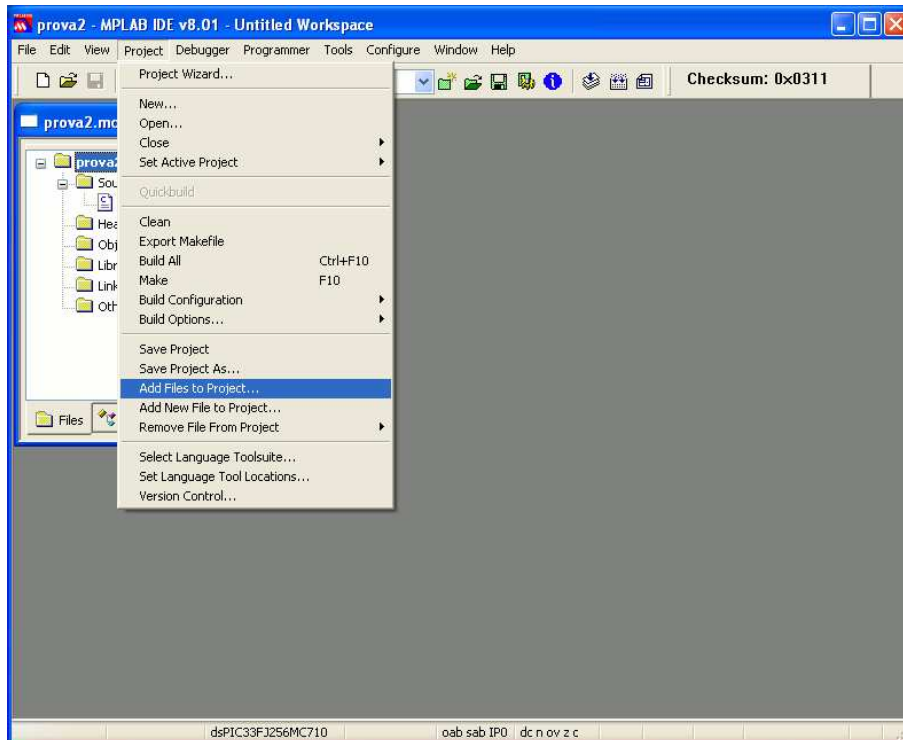
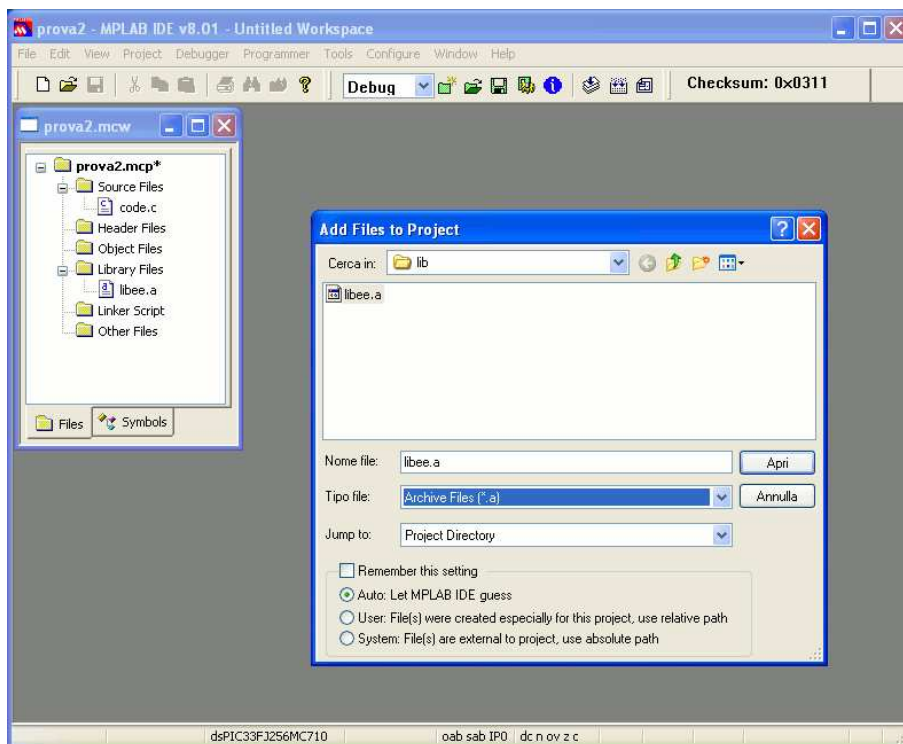

Figure 3.2: Add Files to the Project...
Figure 3.3: Add the Library file to the project.
- c) Add the `libee.a` library which has been generated by the batch script under `destdir\Files\lib\libee.a` to the project. To do that, select "Add Files to Projects..." in the "Project" menu (see Figure 3.2). Then, select the `destdir\Files\lib\libee.a` (see Figure 3.3).